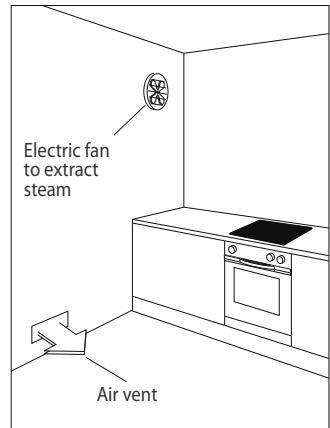

Fig. 2b Ventilation with an electric fan
- If this is not possible, an electric fan installed in an external wall or window may be used; the fan should have a capacity to circulate air at an hourly rate of 3 to 5 times the total volume of the kitchen (Fig. 2b). The fan can only be installed if the kitchen has suitable vents to allow air to enter, as described under 'Providing adequate ventilation' above.